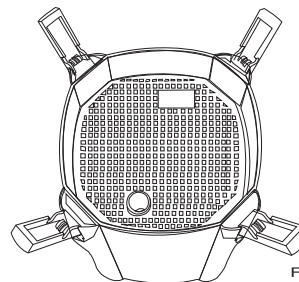

Fig 6
8. Ensure the filter grid is then placed back on top of the last filter basket. This is very important. Fig 6
18. Repeat steps 14 to 17 for the outlet. Fig 6
17. Pull the rubber end cap off the shaft of the impeller and run water through the hole in the middle of the impeller. Clean any debris which may have built up on the shaft off, along with any slime build up on the impeller. Fig 6